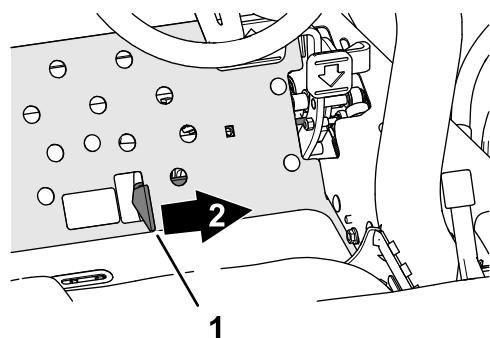

Figure 37
- Press the cutting unit drive switch to the ENGAGE position (Figure 37).
4. Push the lower mow/raise lever forward (Figure 37) to lower and run the cutting units (the front cutting units are timed to lower before the rear cutting units).